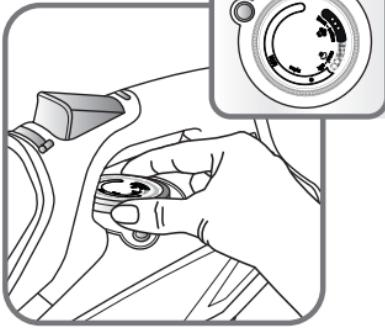

fig.2
- Set the temperature control dial fig.2 on position (Min.)